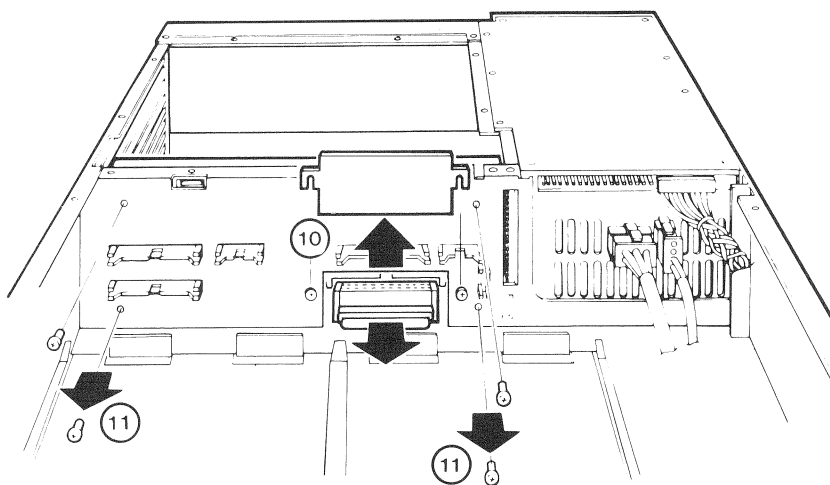

Figure 8-20 Access Cover and Screw Removal
10. Loosen the two screws retaining the small access cover. Remove the cover and disconnect the cable from side two of the backplane (Figure 8-20).